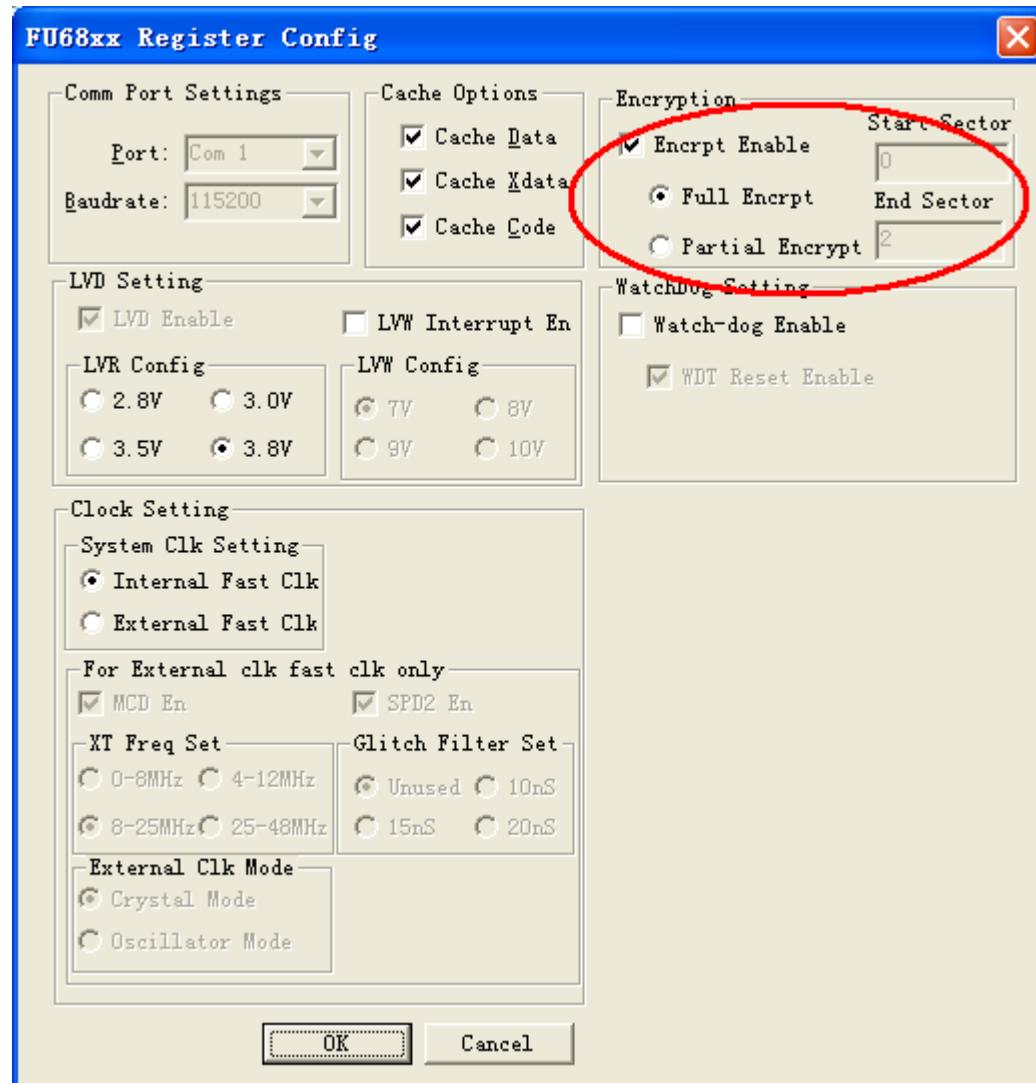

Figure 32-2
Step 2: Select as figure 32-2, and click “OK” button. Then, compiling the project will generate .BIN file. Burning it to FLASH will finished the IPR step.